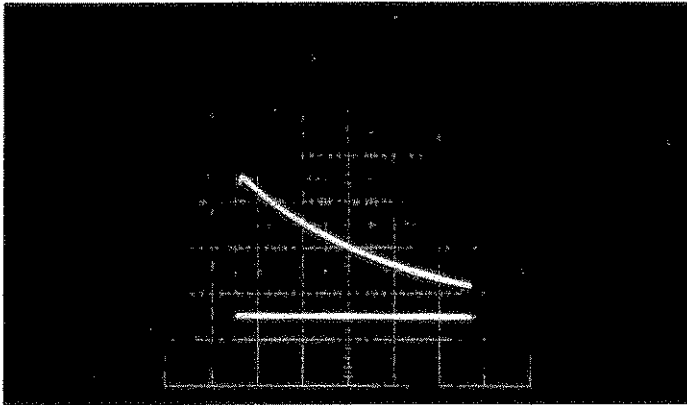
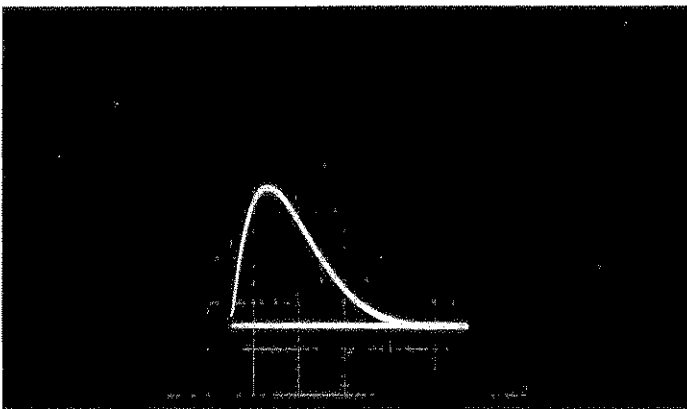

Figure 1.
Figure 2.
For insulation, a $1.2 \times 50 \mu\text{s}$ high voltage wave (Fig. 1) was applied to the test piece (1). Only milliamperes were available from the surge generator, but that was sufficient: either the insulation flashed over or it didn't.
On the other hand, for a power transmission or distribution arrester, tests were designed in such a way as to force an $8 \times 20 \mu\text{s}$ current wave (Fig. 2) through the device under test, using thousands, or even tens of thousands of amperes (1). The resulting voltage developed across the device was then measured.*
In addition, Category B — the one of greatest significance for large electronic systems — requires the classic $1.2 \times 50 \mu\text{s}$ open-circuit voltage wave of Fig. 1, with peak voltage for worst-case locations again equal to 6 kV.** The corresponding short-circuit current is the traditional $8 \times 20 \mu\text{s}$ wave of Fig. 2, with a worst-case peak of 3 kA.**